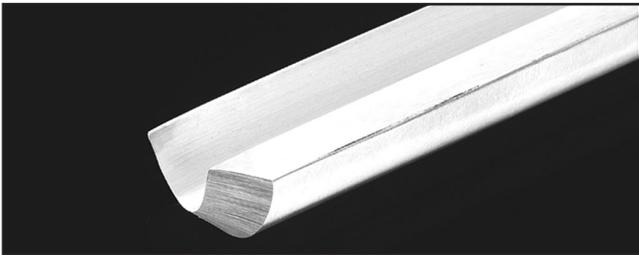

Figure 27. Gouge.
- **Gouges**—Mainly used for rough cutting, detail cutting, and cove profiles. The rough gouge is a hollow, double-ground tool with a round nose, and the detail gouge is a hollow, double-ground tool with either a round or pointed nose. **Figure 27** shows an example of a gouge.